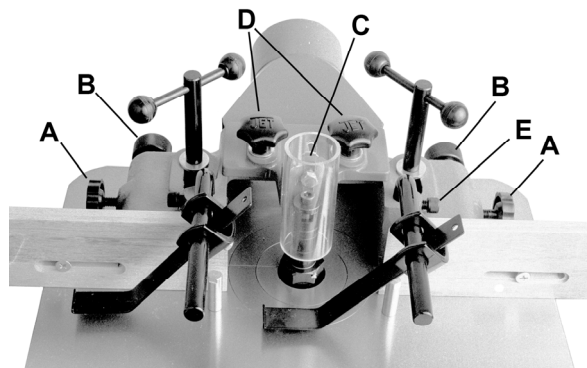

Figure 7
1. Adjust fence halves by loosening lock knob (A, Fig. 7), turn knurled knob (B, Fig. 7) to adjust fence in or out, and tighten lock knob.
2. Adjust spindle guard height by loosening wing nut (C, Fig. 7), sliding guard up or down to desired height, and then tightening wing nut.
3. Adjust spindle guard depth by loosening two lock knobs (D, Fig. 7), moving spindle guard to desired position, and then tightening two lock knobs.
4. Hold down clamps can be adjusted for height by loosening hex socket cap screws (E, Fig. 7), adjusting the hold down clamps to the desired height, and tightening the hex socket cap screws.